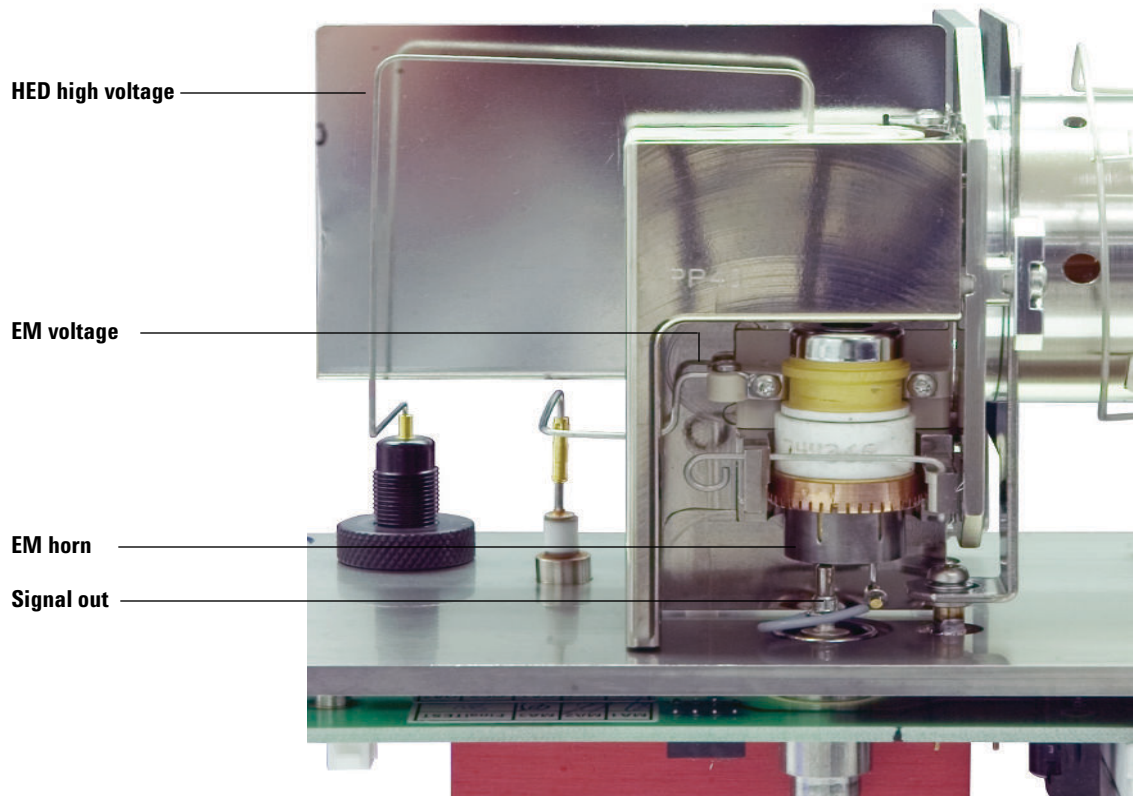

Figure 48 The detector
The detector (Figure 48) in the MSD analyzer is a high energy conversion dynode (HED) coupled to an electron multiplier (EM). The detector is located at the exit end of the quadrupole mass filter. It receives the ions that have passed through the mass filter. The detector generates an electronic signal proportional to the number of ions striking it. The detector has three main components: the detector ion focus, the HED and the EM horn.